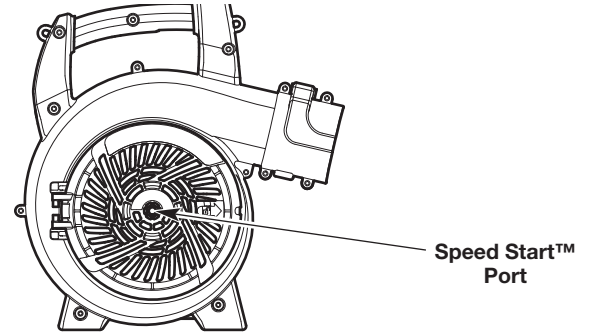

Fig. 9
7. **DO NOT** squeeze the throttle control. Insert the Speed Start™ accessory into the Speed Start™ port (Fig. 9). Refer to the *Operation* section of the Speed Start™ accessory operator's manual.